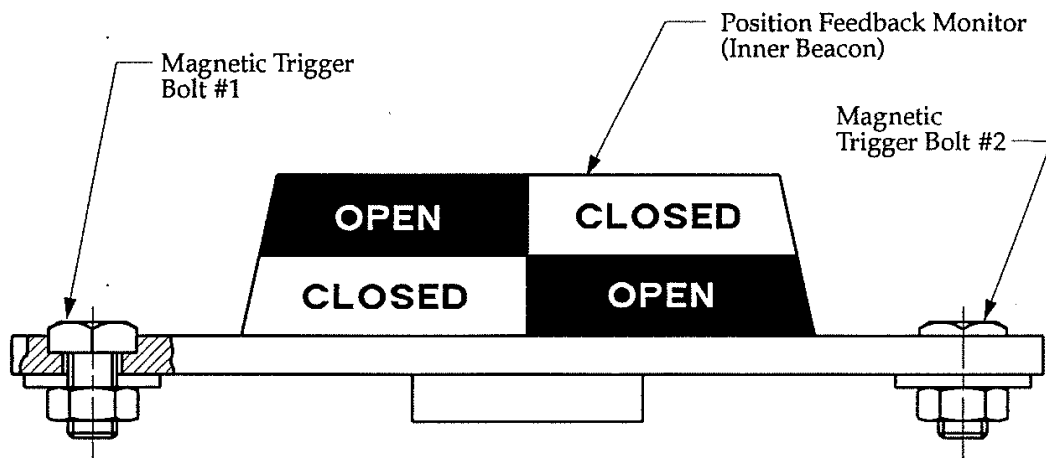

Figure 3
- Step 2:** Loosen Magnetic Trigger Bolt #1. (See Figure 3)